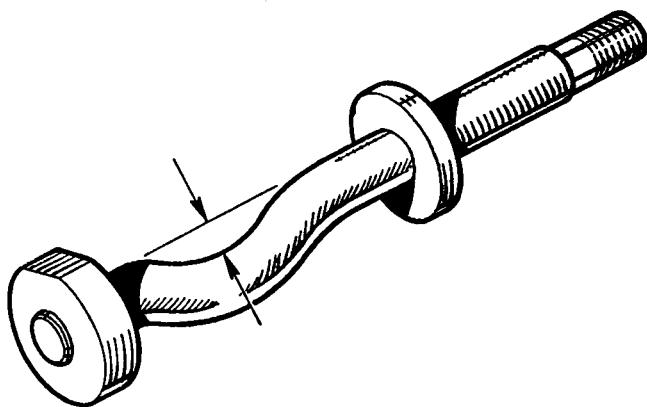

Fig. G.7
29. When fitting a replacement drive shaft assembly (of the type fitted with a rubber boot on the sliding joint) to the left hand side of an early model, it will also be necessary to fit a modified lower arm inner pivot pin to ensure sufficient clearance for the rubber boot. Reference should be made to Fig. G.7 for the dimension of the modified pivot pin.